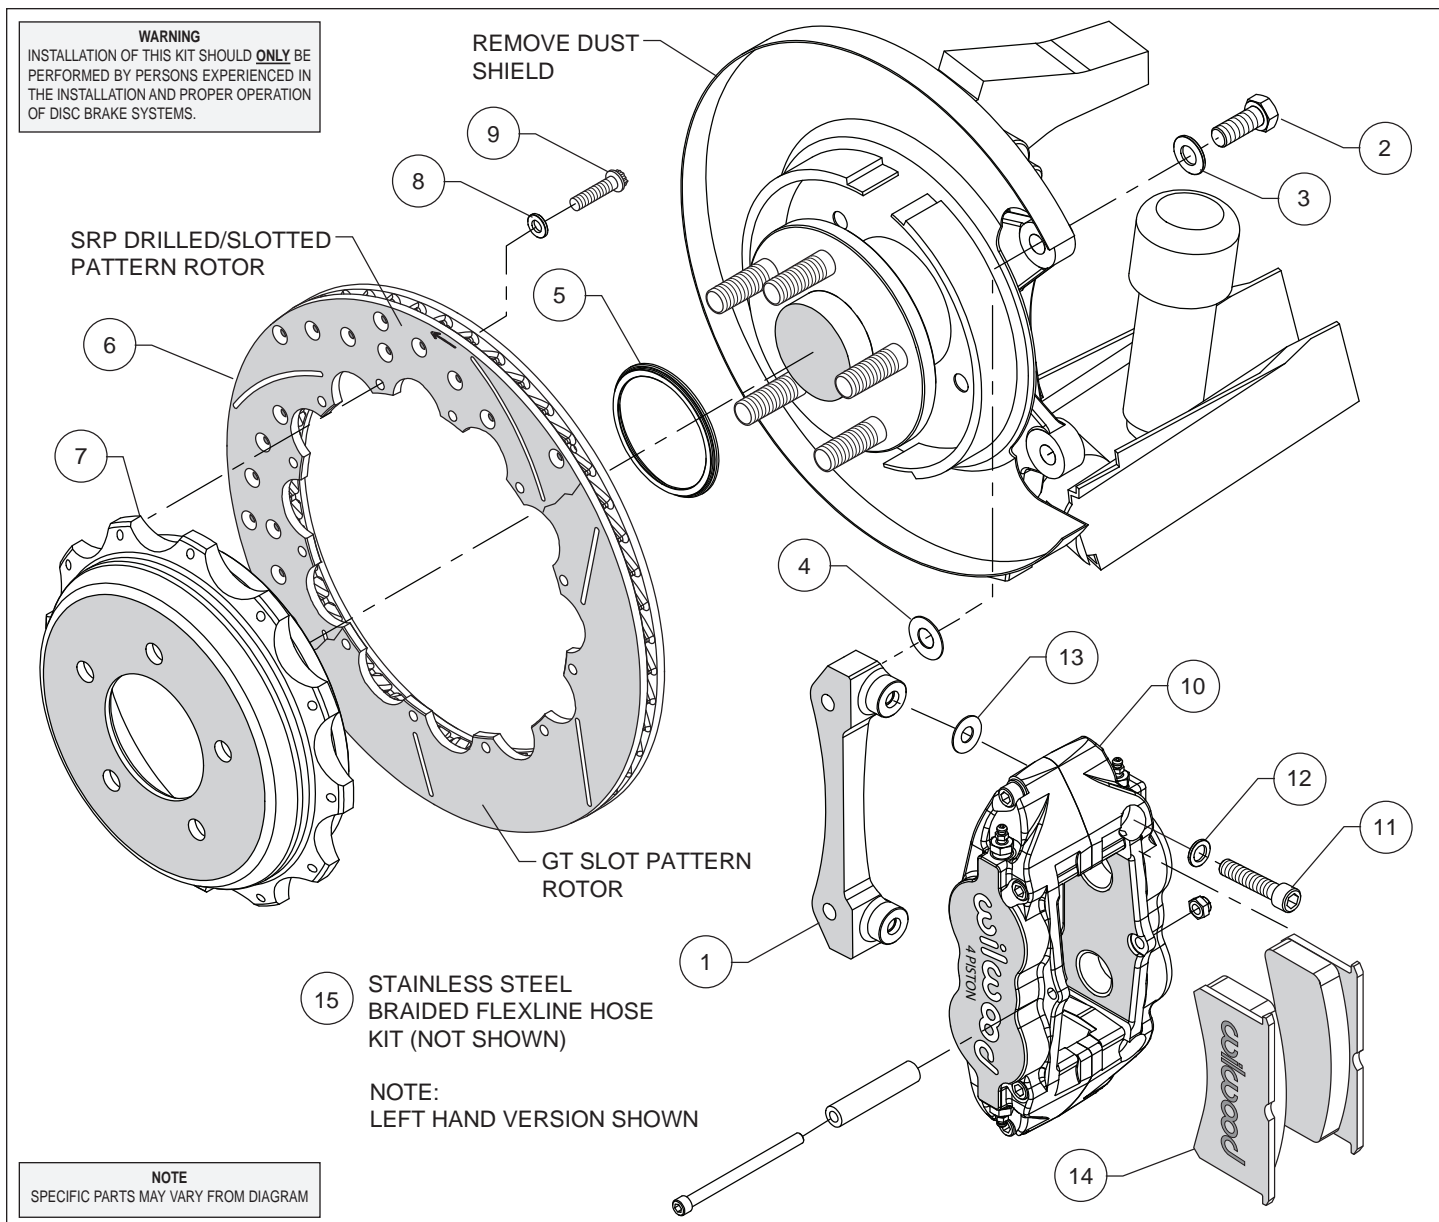
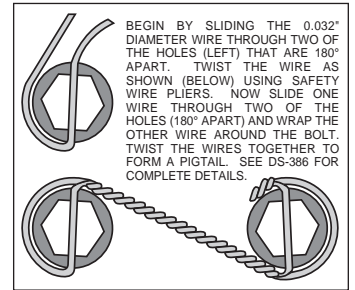

Figure 1. Typical Installation Configuration
Figure 3. Safety Wire Diagram
**Assembly Instructions** (numbers in parenthesis refer to the parts list and Figure 1 on the preceding pages):
- The caliper mount bracket (1) should initially be installed with clean, dry threads on the mounting bolts. Orient the bracket as shown in Figure 1 and Photo 2, and install using washers (3) and bolts (2). Initially place one shim (4) on each bolt between the bracket and upright, Figure 1. Temporarily tighten the mounting bolts. **NOTE:** *The bracket must fit squarely against the mount bosses on the upright.* Inspect for interference from casting irregularities, machining ridges, burrs, etc. Later, after the caliper alignment has been checked, the mount bolts will be secured using red *Loctite*® 271.
- Orient the rotor (6) and the hat (7) as shown in Figure 1 and Photo 3. Attach rotor to hat using bolts (9) and washers (8). Using an alternating sequence, apply red *Loctite*® 271 to the threads, and torque to 140 **in-lbs**. For an added measure of security, the bolts may be safety wired using standard 0.032 inch diameter stainless steel safety wire as shown in Figure 3. Please refer to Wilwood's data sheet DS-386 (available at [www.wilwood.com/Pdf/DataSheets/ds386.pdf](http://www.wilwood.com/Pdf/DataSheets/ds386.pdf)) for complete safety wire installation instructions.
- Mount the caliper onto the bracket (1) using bolts (11) and washers (12), Figure 1. Initially place one .035" thick shim (13) on each bolt between the caliper and bracket as shown in Figure 1 and Photo 5. Temporarily tighten the bolts and view the rotor through the top opening of the caliper. The rotor should be centered in the caliper, Photo 6. If not, adjust by adding or subtracting shims (4) between the bracket and the upright. Once the caliper alignment is correct, remove the bracket mounting bolts one at a time, apply red *Loctite*® 271 to the threads, and torque to 60 ft-lb.
- Remove the caliper center bridge pad retainer bolt, nut, and tube from the caliper. Insert the brake pads (14) into the caliper, with the friction material facing the rotor, as shown in Photo 7. Check that the top of the brake pad is flush with the outside diameter of the rotor, Photo 8. If not, adjust by adding or subtracting shims (13) between the caliper and the bracket. After the caliper pad height is set, reinstall the center bridge pad retainer tube, bolt, and lock nut. The lock nut should be snug without play in the bolt or tube. Be cautious not to over tighten. Remove the caliper mounting bolts (11) one at a time, apply red *Loctite*® 271 to the threads, and torque to 35 ft-lb.